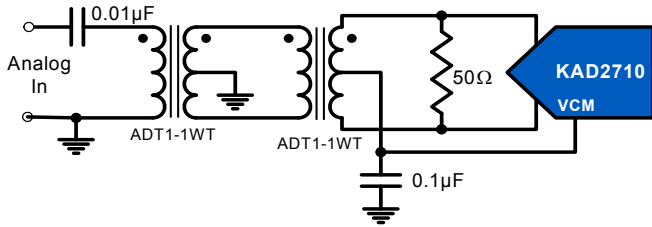

FIGURE 23. TRANSFORMER INPUT FOR GENERAL APPLICATIONS
Best performance is obtained when the analog inputs are driven differentially. The common-mode output voltage, VCM, should be used to properly bias the inputs as shown in Figures 23 and 24. An RF transformer will give the best noise and distortion performance for wideband and/or high intermediate frequency (IF) inputs. Two different transformer input schemes are shown in Figures 23 and 24.